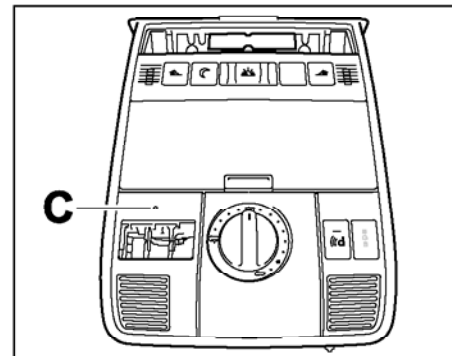

Figure 14
- 4.2 Clip trim for switches ⇒ *Figure 14-C-* into roof console.